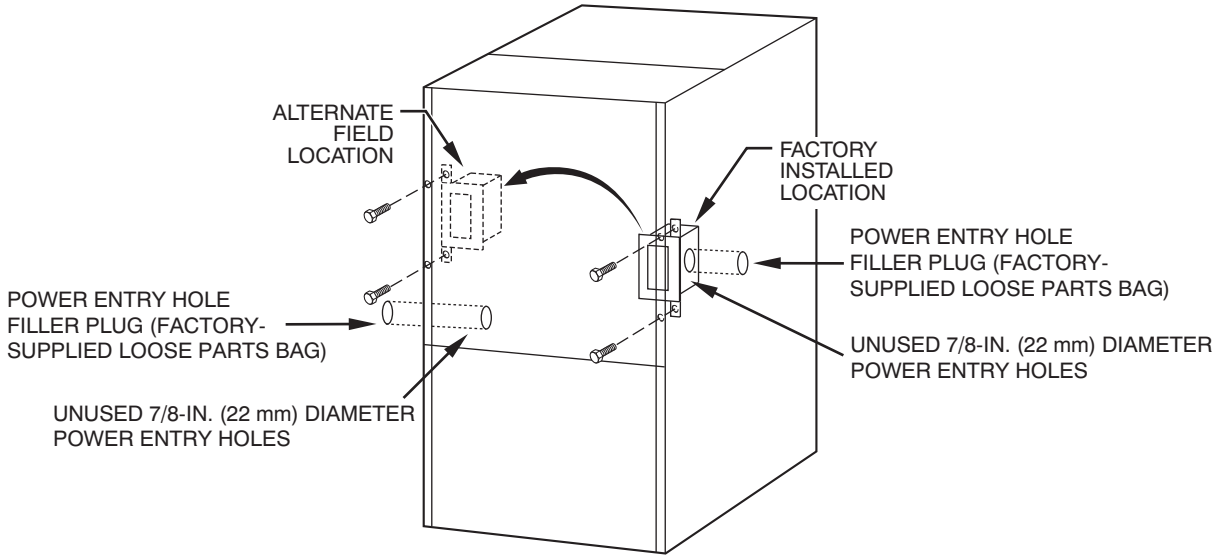

Fig. 34 - Relocating J-Box
1. Remove 2 screws holding auxiliary J-box. (See Fig. 34.)
3. Install electrical entry hole filler plugs (factory-supplied loose parts Bag) in unused power entry holes. (See Fig. 34.)